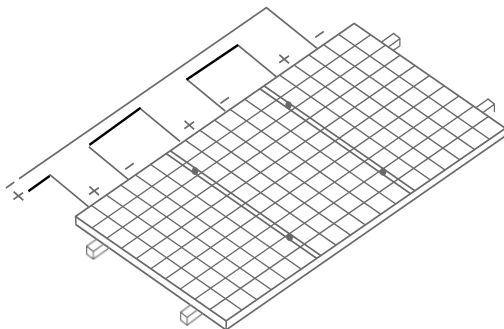

Figure 20 Connection in Series
- It is not allowed to use the Module in different models in the same solar photovoltaic system. When the Module are connected in series, the voltage of every string shall not be higher than the maximum voltage of the system (as shown in Figure 20), Please refer to the country's or local regulations for details.